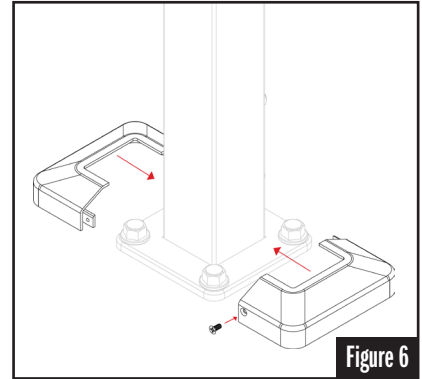

Figure 6
- STEP 6:** - Attach Base Cover (Item F) over the base of the both posts and secure with screw. See Figure 6.